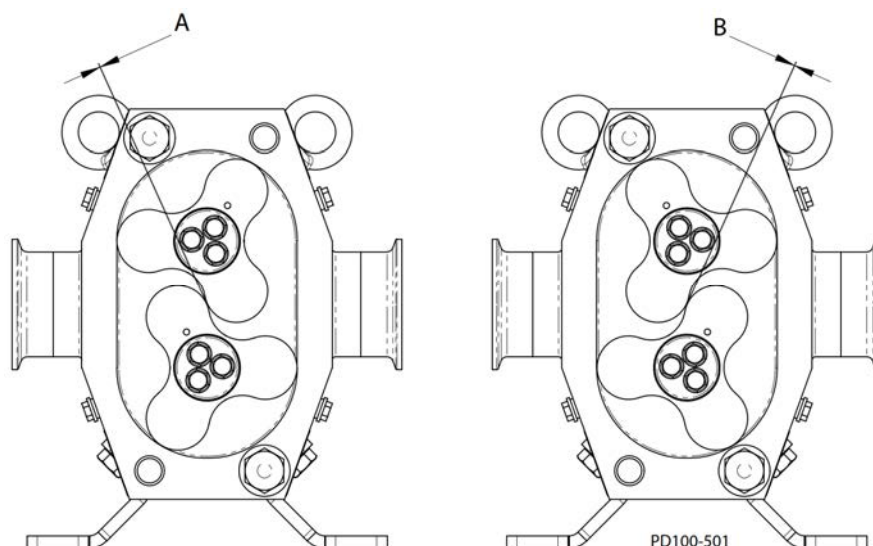

Fig. 63: Rotor Clearance
- Check the rotor-to-rotor clearance at the positions shown in Figure 63.
11. The "A" and "B" clearance dimensions shown in Figure 63 must be within the ranges specified in Table 11 at all positions. Adjust the gear position on the drive shaft as required.